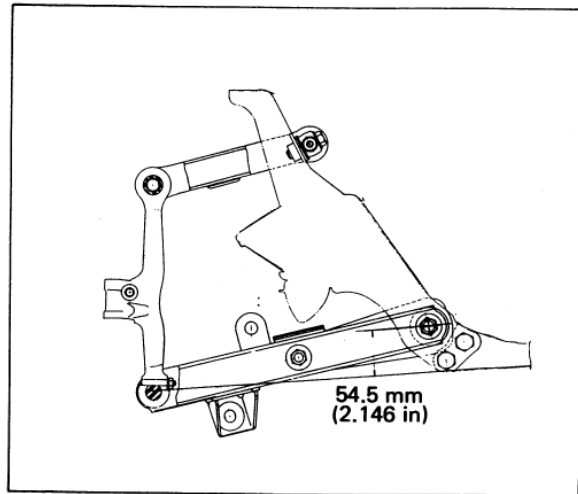

Fig. FA-30 Assembled posture of knuckle spindle and upper link
- (7) Install upper link bushing on the upper end of knuckle spindle support.
- (8) Install the upper end of knuckle spindle support on upper link, arrange them to condition shown in Figure FA-30, and tighten fulcrum bolt.
Note: Be sure to position suspension as shown in Figure FA-30.